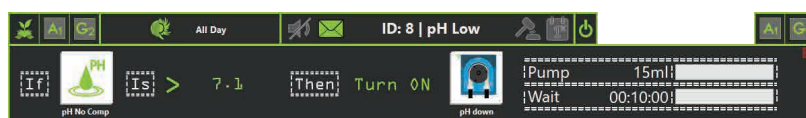

Figure 2 - Low pH Alarm Example
- In Figure 2 you can see the configuration for an alarm that can control your pH. Whenever the pH is higher than 7.1, the peristaltic pump will turn ON and debit 15 milliliters (ml) of acid. If after 15 minutes the pH value is still above 7.1, the pump will add more 15ml of acid, and wait 10 more minutes, until the value gets below 7.1.